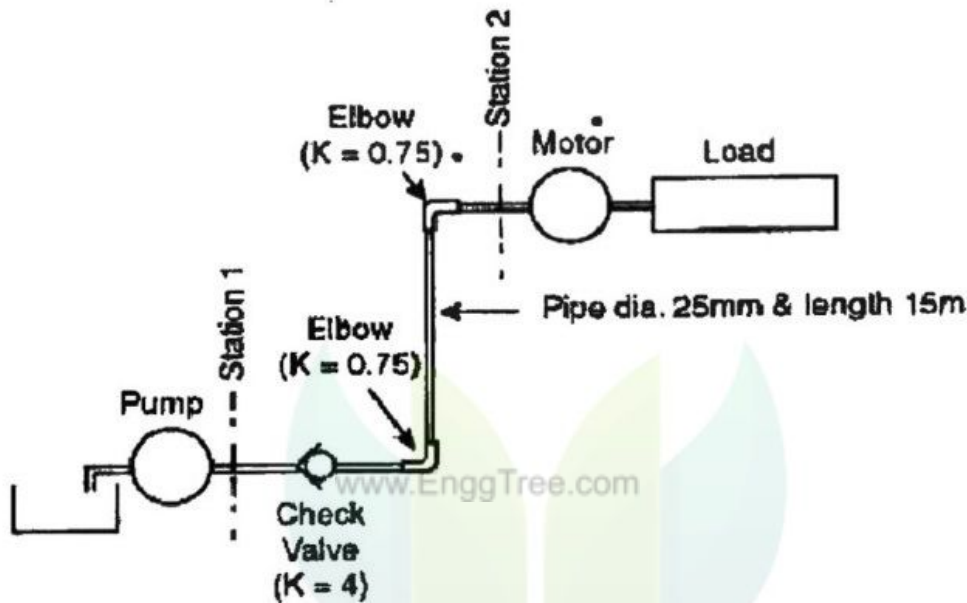

Fig 11 (a)
11. (a) The system shown in Figure 11 (a) contains a hydraulic pump delivering high pressure oil of specific gravity 0.9 and kinematic viscosity $1.25 \times 10^{-4} \text{ m}^2/\text{s}$, to a hydraulic motor. A 25 m pipe of internal diameter 30 mm and thickness of 10 mm connects the pump and motor. The pipe has two elbow fittings ($k = 0.70$) and one check valve ($k = 4.0$). The motor is placed 10 m above the pump. The pressure required to drive the loaded motor is 40 bar. Determine the pump discharge pressure, if the discharge from the pump is 180 lpm